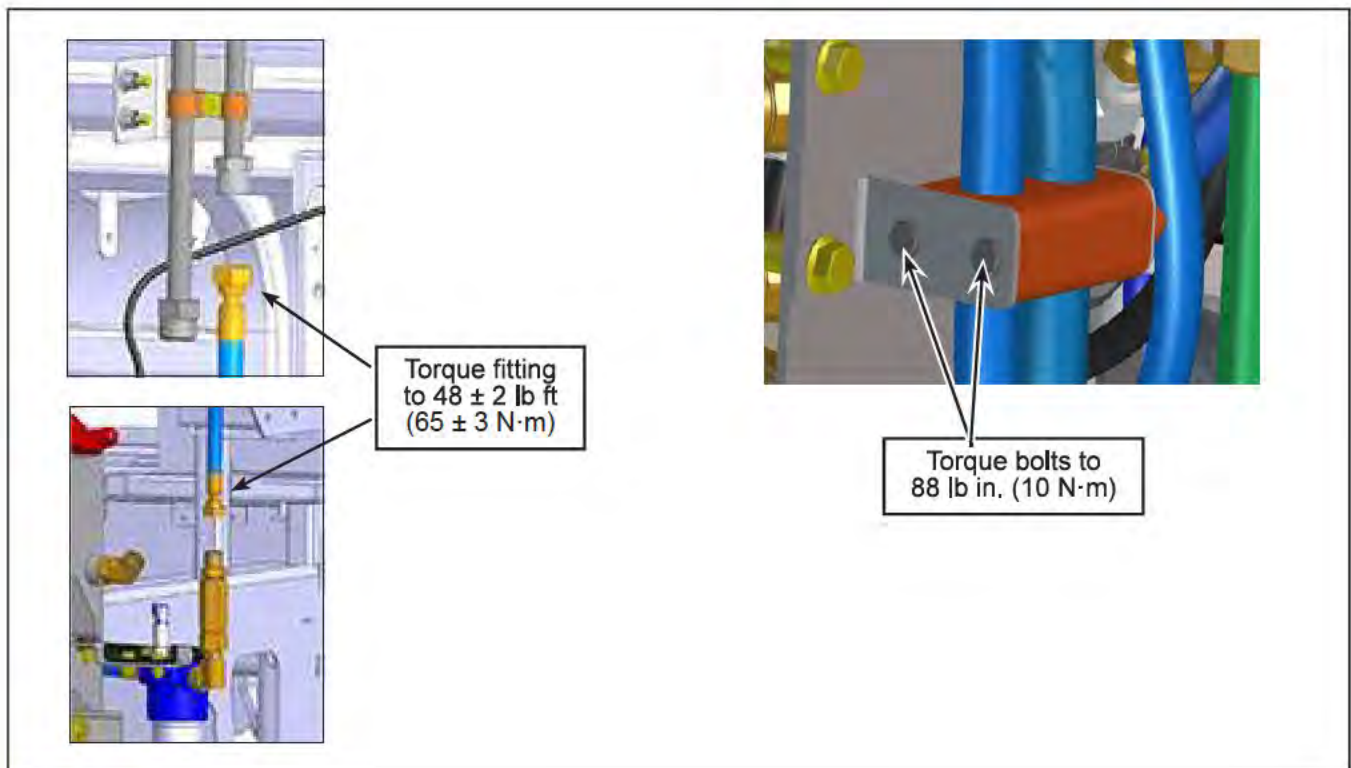

Figure 5 - N95740-53 Hydraulic Hose Fitting and Split Block Hardware Torque Value
- 2.6. Install a new N95740-53 hydraulic hose and tighten both fitting. See Figure 5 for torque value.
- 2.7. Install the retained split block. See Figure 5 for torque value.